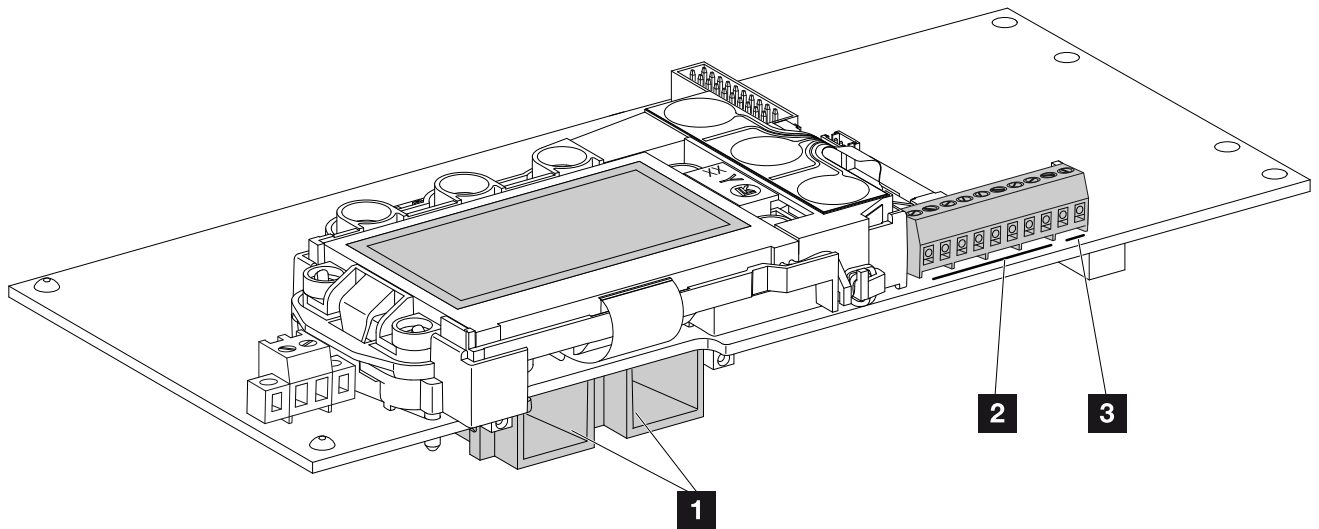

Fig. 34: Components of the communication board
5. Plug the sockets and plugs of the DC strings onto the inverter.  **Fig. 34**